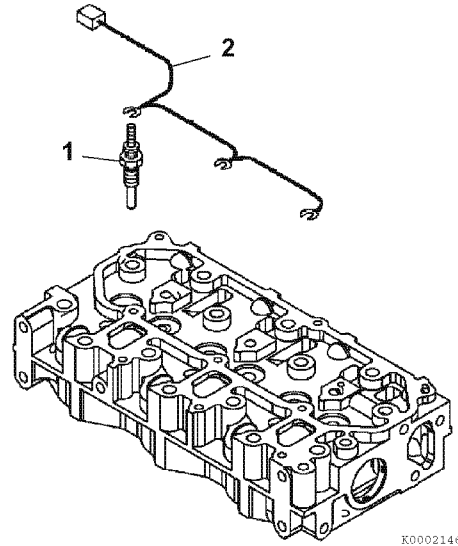

Figure 6-3
1. Disconnect the glow plug harness (2, **Figure 6-3**) from the glow plugs (1, **Figure 6-3**).